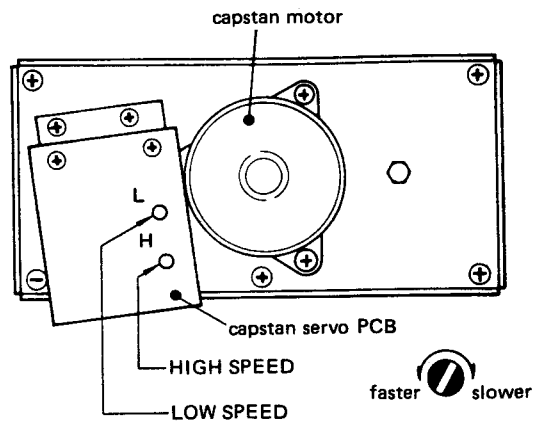

Fig. 2-17 FWD/REV play speed adjustment points
3. Play the tape. Adjust HIGH SPEED control (see Fig. 2-17) for a reading of $3,000\text{Hz} \pm 5\text{Hz}$.
1. 調整箇所 図2-17参照